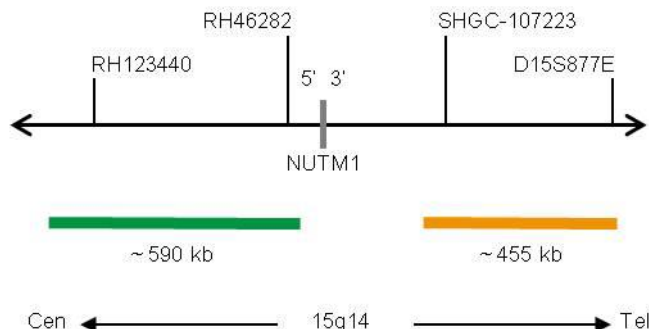

Fig. 1: SPEC NUTM1 Probe map (not to scale)
- ZyGreen (excitation 503 nm/emission 528 nm) labeled polynucleotides (~10.0 ng/μl), which target sequences mapping in 15q14\* (chr15:33,999,791-34,587,649) proximal to the NUTM1 breakpoint region (see Fig. 1).
- ZyOrange (excitation 547 nm/emission 572 nm) labeled polynucleotides (~4.5 ng/μl), which target sequences mapping in 15q14\* (chr15:34,873,659-35,326,986) distal to the NUTM1 breakpoint region (see Fig. 1).